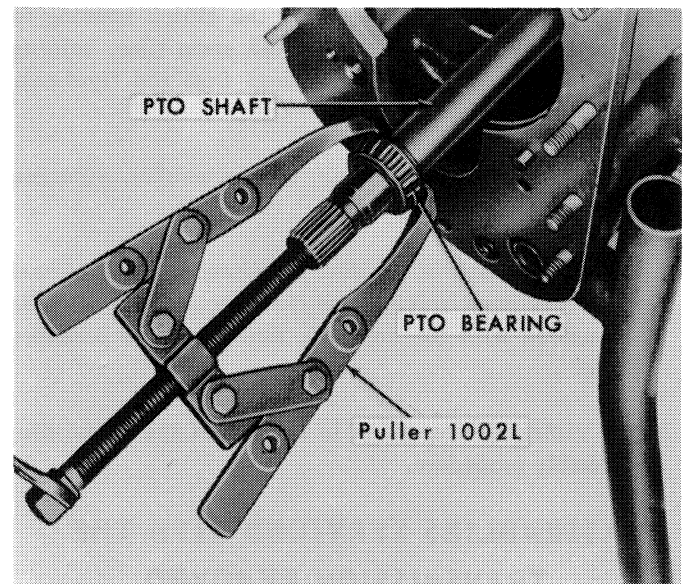
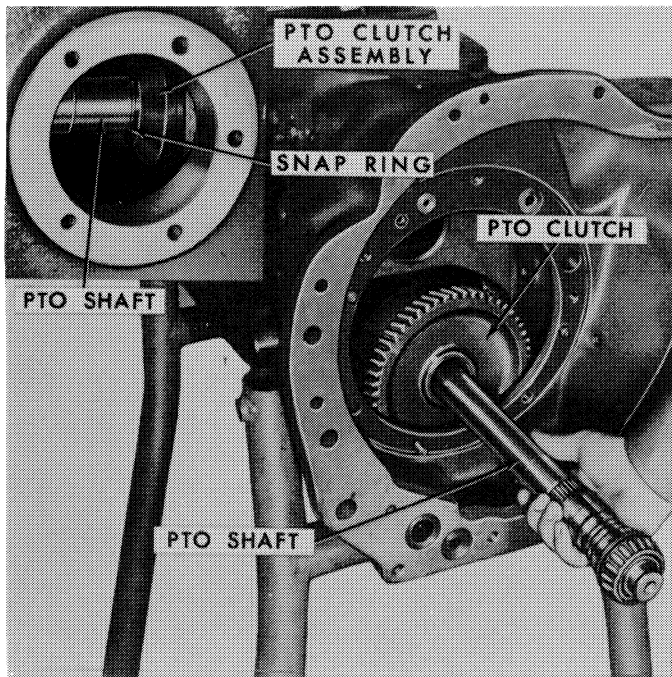

Figure 71
Figure 72
3. Place the transmission on a suitable stand, as shown in Figure 72.
Single Speed P.T.O.: Remove the bearing from the rear of the shaft with a puller, as shown in Figure 71. Remove the rear snap ring. Insert a long screwdriver through the transmission side inspection opening and remove the half snap ring adjacent to the P.T.O. clutch pack by pushing the ring off the shaft. Refer to Figure 72. The shaft is removed from the front of the case by pushing it through the clutch pack. Remove the clutch pack.